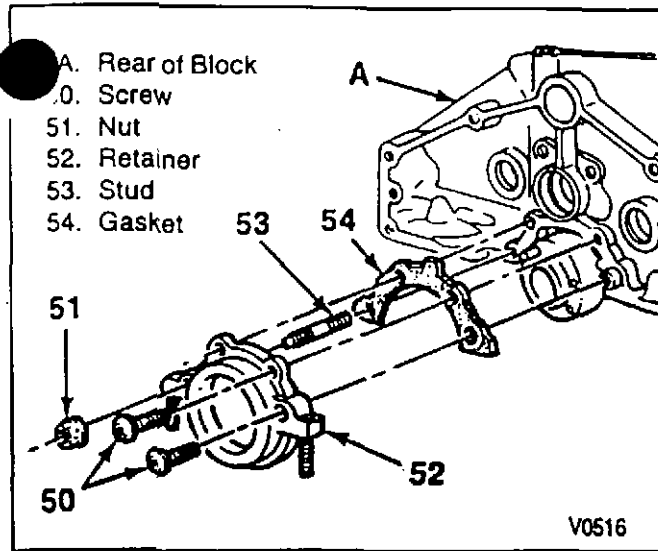

Figure 17—Crankshaft Rear Oil Seal Retainer
- ↔ Remove or Disconnect (Figure 17)**
1. Screws (50) and nuts (51).
2. Seal retainer (52).
3. Gasket (54).